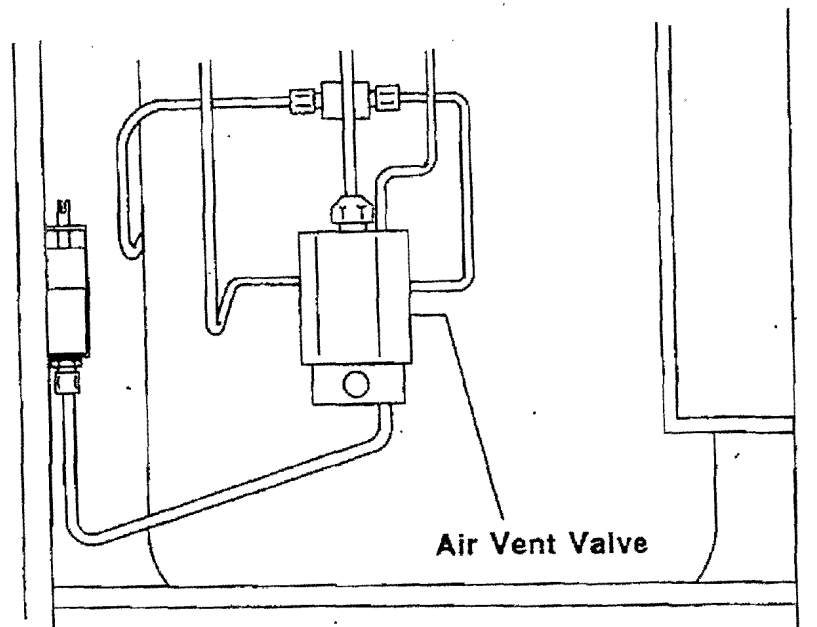

FIGURE 3-6, REAR VIEW
2. Take off the rear plate. The air vent valve can be seen on the center of the chamber. (See Figure 3-6)